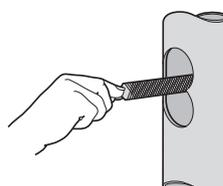

Fig. 17c Step 3
Step 3 – Remove sides of aperture with a medium file (Fig. 17c)